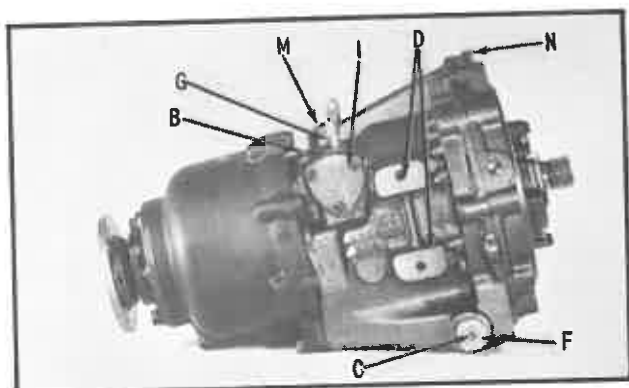

Fig. 11 Right Side View of Current Production Transmission
4. Reduction housing (L7-1A) is used on the reduction transmissions with the new circulation system and replaces part (L7-1) used with the older circulation system. These parts are not interchangeable and care must be exercised in ordering the correct part for the transmission. The new housing (L7-1A) may be identified by the absence of the tapped hole where the cooler oil previously returned to the reduction housing (Figs. 11 and 12).
The following list identifies the important features of the various model transmissions in (Figs. 11, 12 and 13).